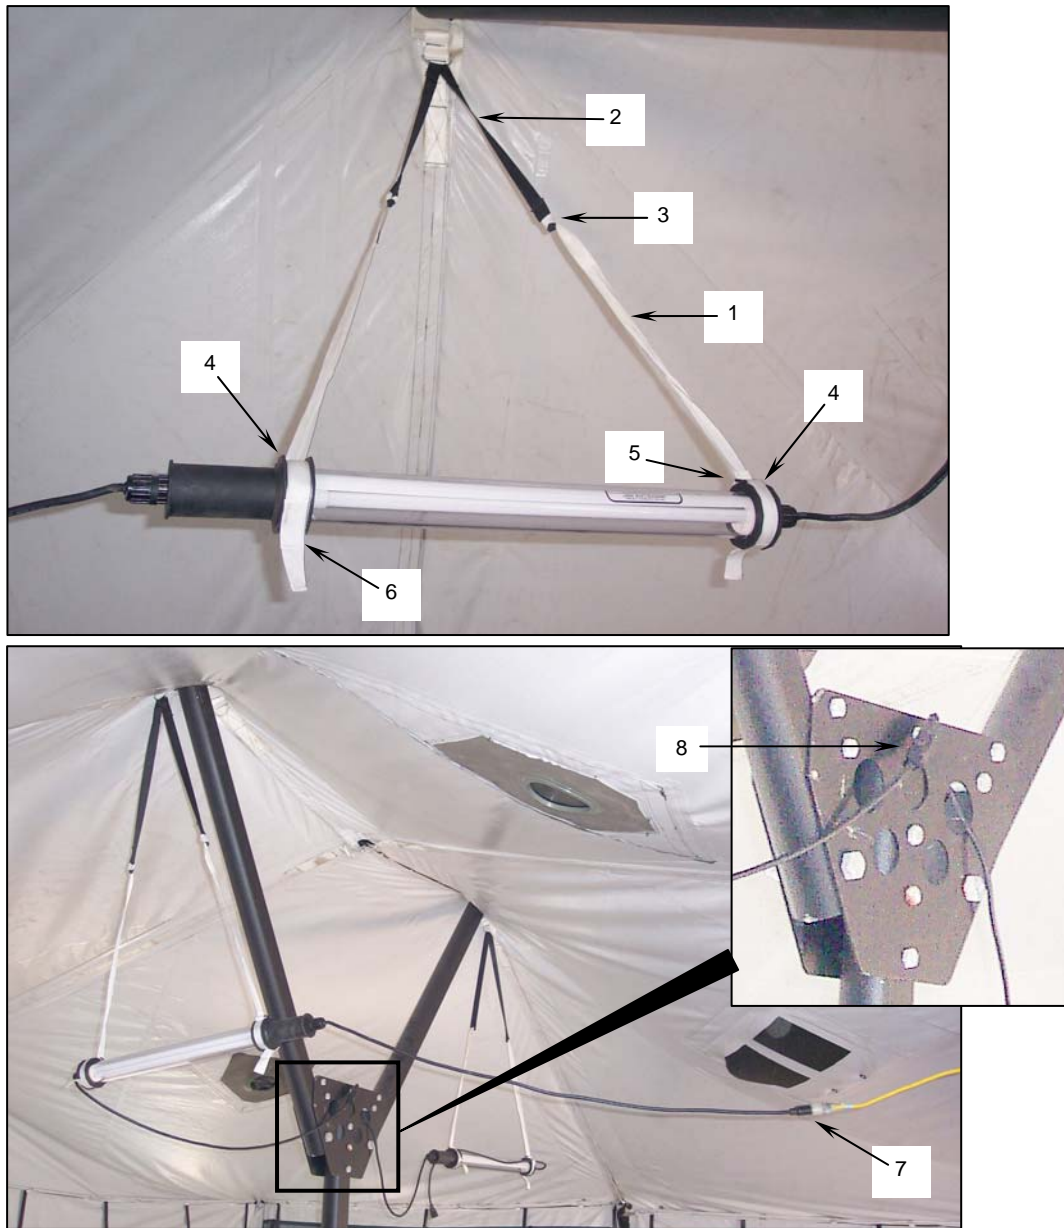

Figure 2. Installing the Electric Lights.
- a. Insert one light-hanging strap (**Figure 2, Item 1**) through the loop in the tent light hanger (**Figure 2, Item 2**).
- b. Insert one end of that light-hanging strap (**Figure 2, Item 1**) through the loop in the other end of the same light-hanging strap (**Figure 2, Item 1**).
- c. Pull the light-hanging strap tightly through until it knots at the loop (**Figure 2, Item 3**) of the tent light hanger. Repeat this procedure for the second strap.
- d. Loop the light-hanging straps around the lip at both ends of the light (**Figure 2, Item 4**).
- e. Insert the loose end of both straps through its D-ring (**Figure 2, Item 5**) and secure with its hook and loop fasteners (**Figure 2, Item 6**).
- c. Plug the 25-ft. extension cord into one of the electric lights (**Figure 2, Item 7**).
- d. Connect the power plug from the second light into the outlet socket of the first light (**Figure 2, Item 8**).